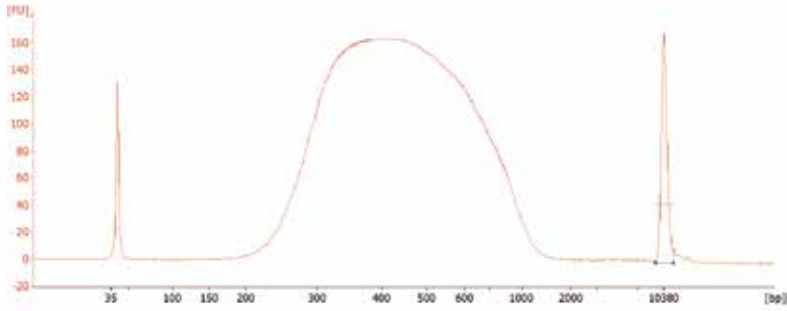

Figure 1 Library size distribution
Step 4 of the ligation products are directly sorted (without purification), and the sorting conditions need to be adjusted. There is no significant difference in the size of the main peak of the library, the yield is significantly increased, and the peak shape is slightly wider using this method (see Figure 1). Taking the sorting condition of library size 430 bp as an example, the specific sorting steps are as follows:
(1) Take out the magnetic beads from 2-8°C and incubate for 30 minutes at room temperature before use.
(2) Vortex the magnetic beads to mix well, pipet 25  $\mu$ l beads (0.25 $\times$ ) to the product of adapter ligation.
(3) Pipet to mix well, and incubate for 5 minutes at room temperature.
(1) It is recommended to use Agilent 2100 Bioanalyzer to assess the library quality, taking Agilent high sensitivity DNA kit (Cat.No.5067-4626) as an example. The main peak of a properly fragmented library should be between 350-470 bp, as shown in Figure 1. If there is a sharp peak around 84 bp (adapter-dimer contamination), the library